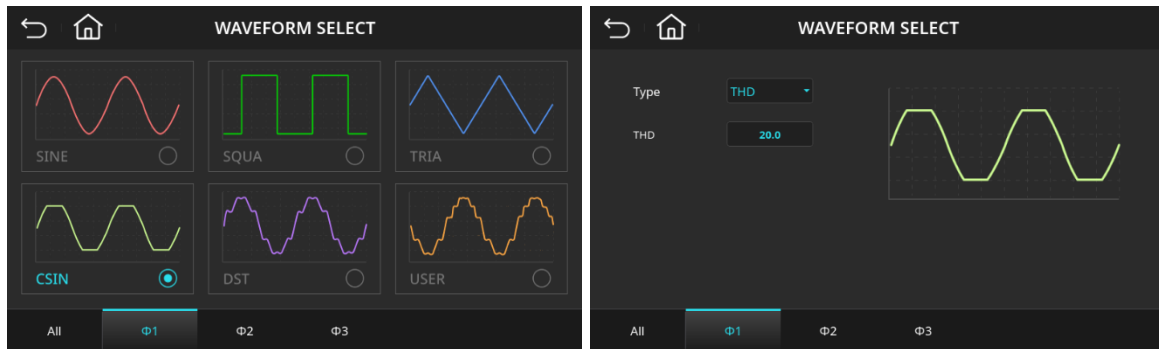

Figure 4-51: Output Waveform Selection Page (First-Phase Output Waveform ($\Phi 1$) Set to Clipped Sine Wave (CSIN), THD = 20%)
6. Return to the Waveform Select page. As shown in Figure 4-51, the first-phase output waveform ($\Phi 1$) has been changed to Clipped Sine Wave (CSIN) with THD = 20%.